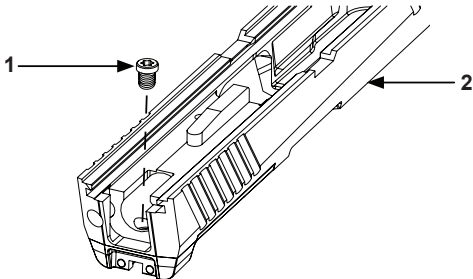

Figure 7. Remove Sight Plate Screw.
7. Use a T15 Torx® bit to remove rear sight plate screw (Figure 7, Item 1) from slide (Figure 7, Item 2). Do not reuse this rear sight plate screw. Use new screw provided with ROMEO-M17 optic.